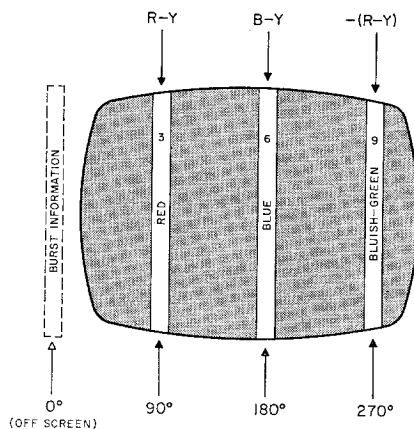

Figure 4. R-Y, B-Y, —(R-Y)
Step 4. Adjust the receiver's hue control to display a red, blue and bluish green bar in this order from left to right (See Fig. 4). If this arrangement cannot be obtained with any setting of the hue control, then internal adjustment of the hue range coil is necessary.